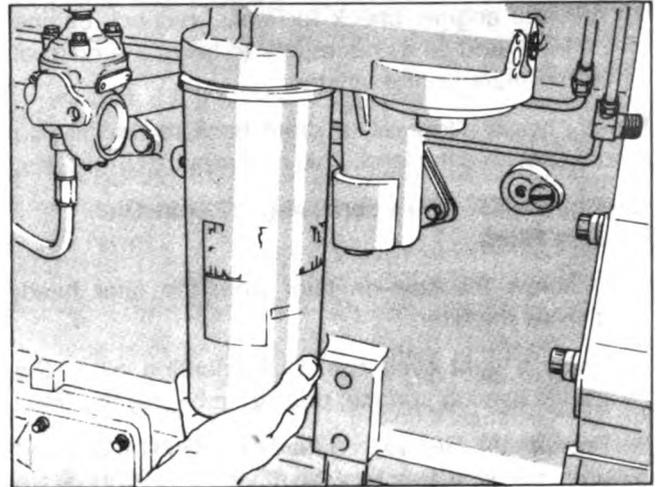

Fig. 2-15(OM1018L). Installing lubricating oil filter cartridge
1. Unscrew combination case and elements, Fig. 2-15, discard elements.